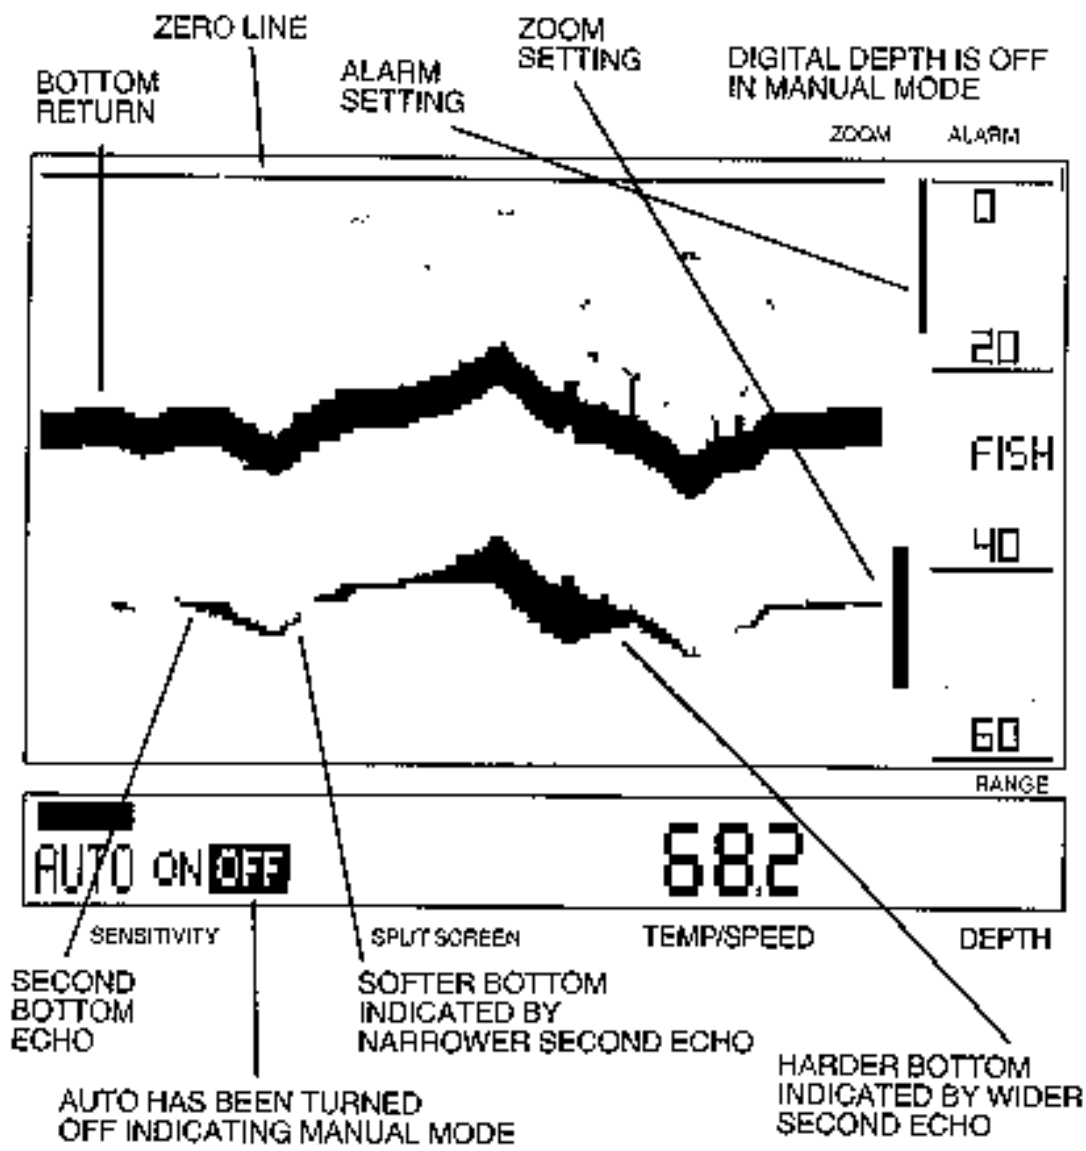

FIGURE 16
- D. In the Manual Mode the digital bottom reading goes off and the automatic range change is off. Also the area below the bottom is no longer blacked out, therefore a second return or double echo can be displayed if desired (see Figure 16). Also, the hardness of the bottom can sometimes be determined by the thickness of the second bottom return. For example, a hard or rock bottom will give a wider return as compared to a soft or muddy bottom.